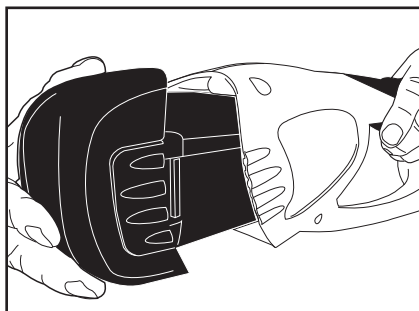

Figure 7
1. Align the rib on the battery pack with the corresponding slot in the end of the power handle. (see figure 7)